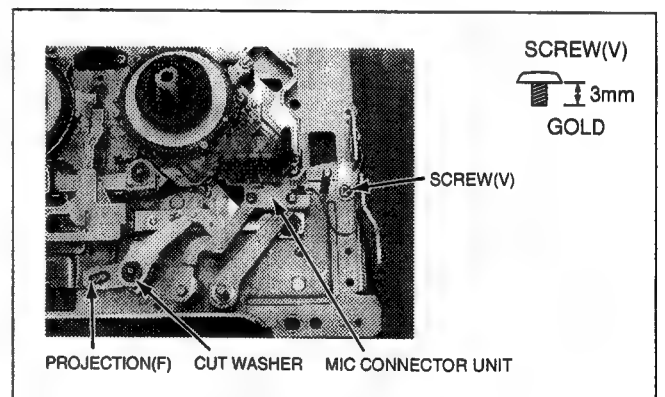

Fig. M-37
- Fig. M-37 Unscrew 1 screw (V) and remove the cut washer and MIC Connector Unit.
- Fig. M-37 Install the MIC Connector Unit so that the projection (F) meets the hole on the MIC Connector Unit.